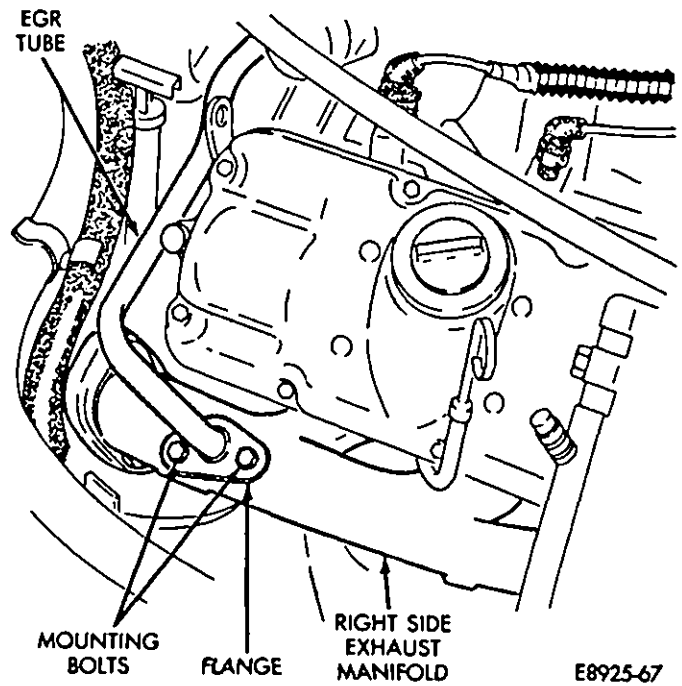

Fig. 12—EGR Tube to Exhaust Manifold Connection
(2) Remove the EGR flange bolts from the right side exhaust manifold (Fig. 12).
(3) Remove EGR tube.
(4) Remove any old gasket material from the exhaust manifold.